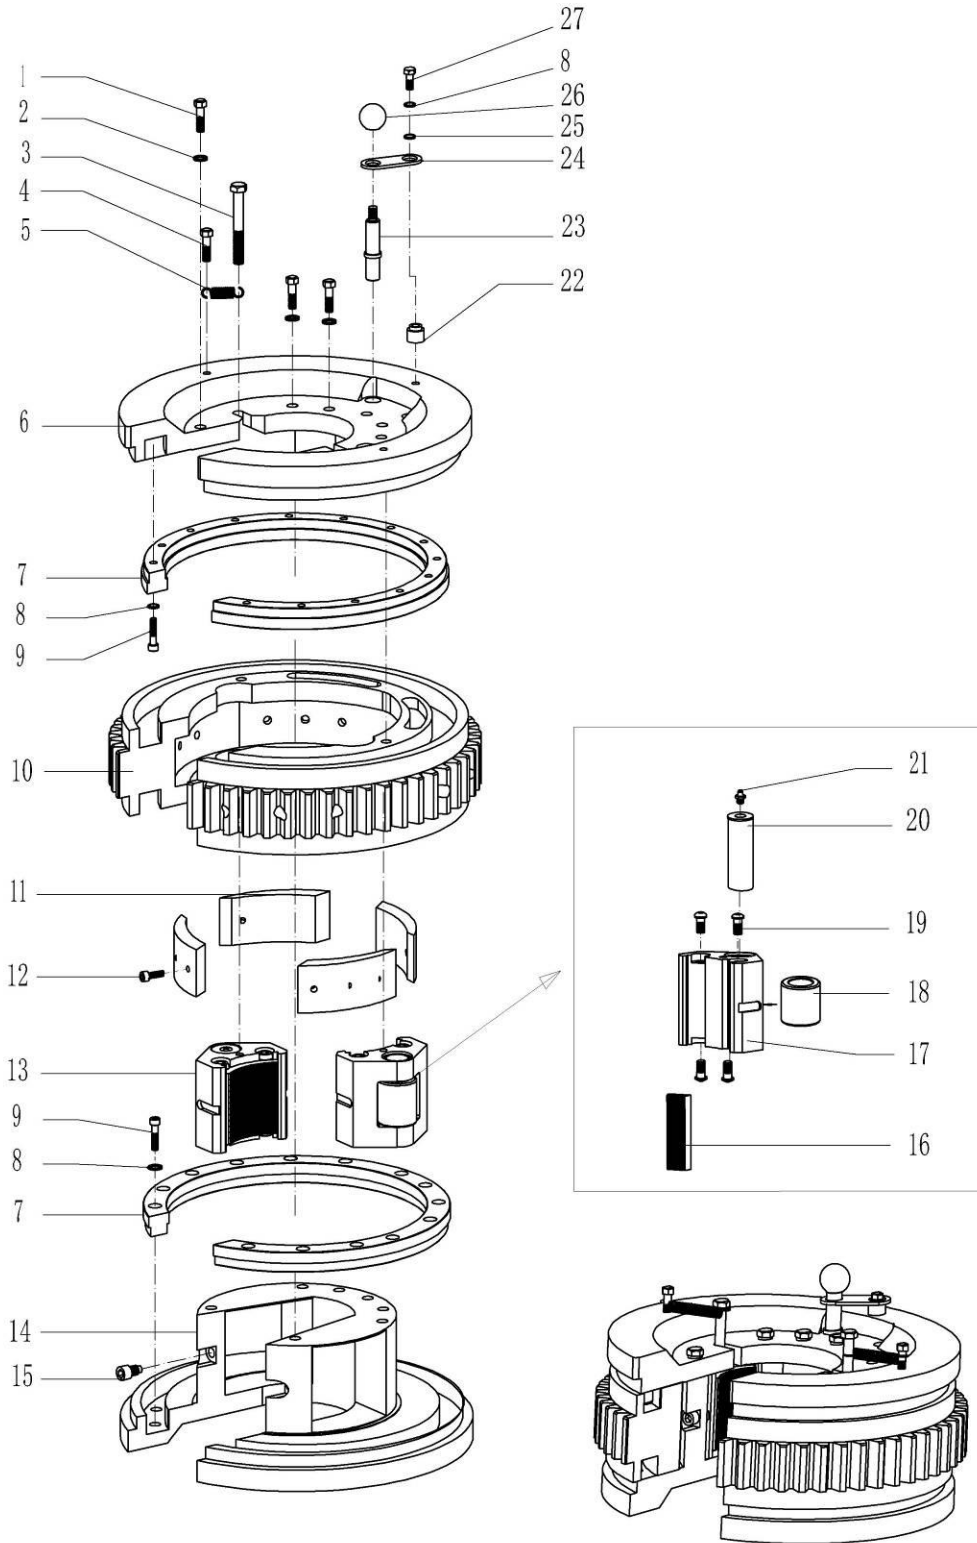

Fig. 7-3
3. Assembly of tong head (Fig 7-3, Table 1)
3. Assembly of tong head (Fig 7-3, Table 3)